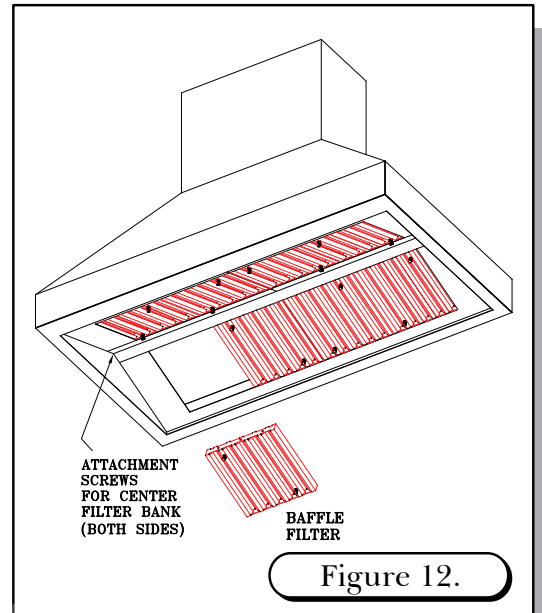
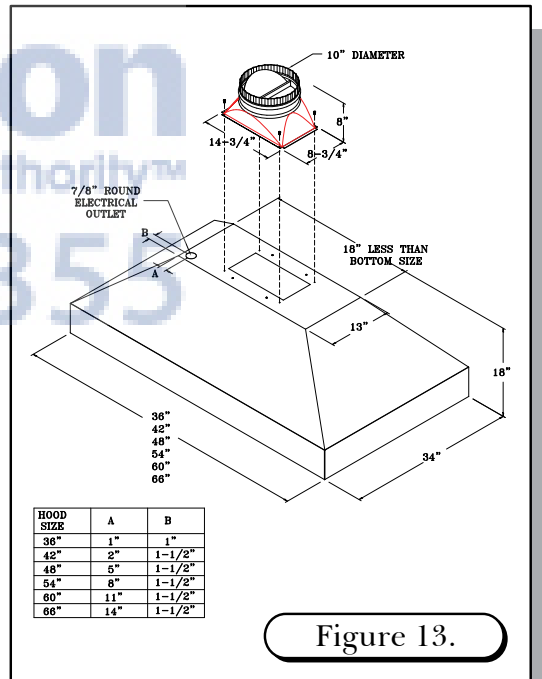

Figure 12.
Figure 13.
2. Remove center filter bank by removing the 2 screws from each side. DO NOT DISCARD THESE PARTS, as they will be reinstalled after hood installation is completed. (See Figure 12)
4. Detach the transition from the hood by removing the (4) shipping screws on the top of the hood assembly. DO NOT DISCARD THESE SCREWS. These shipping screws will be needed for the reinstallation of the transition to hood.
6. When installing a remote fan, drill a 7/8" hole through hood framing for conduit wiring. (See Figure 13 for overall dimensions and electrical requirements.) See installation instructions provided with your fan for mounting and installation information.